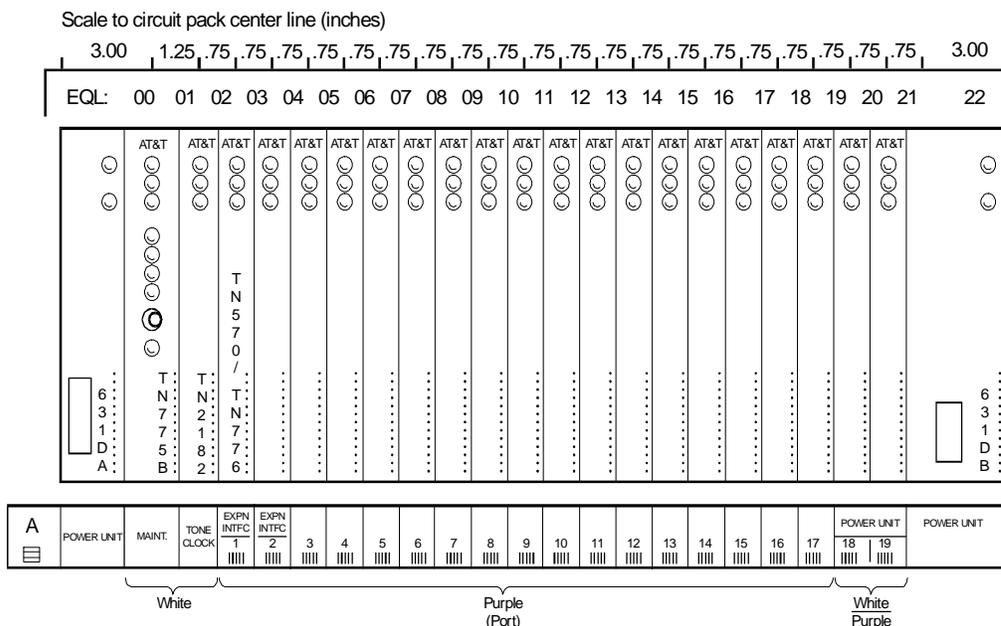

Figure 7-9. Circuit-Pack Locations in G3i V4 Expansion Control Carrier
1. See WARNING and NOTE. Install the new G3i V4 control circuit packs into carrier "A." See Figure 7-9. The new decal, and the annotated "list configuration all" (provided with the G3i V4 tape) as a guide.